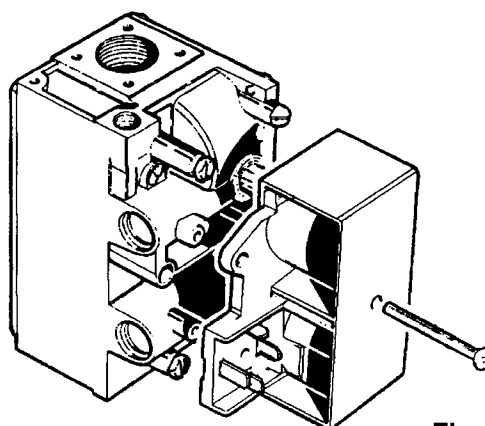

Fig. 30
Refer to fig. 30
- 8.12.2 Release the screw securing the operator bracket to the gas valve body. (Fig. 30)